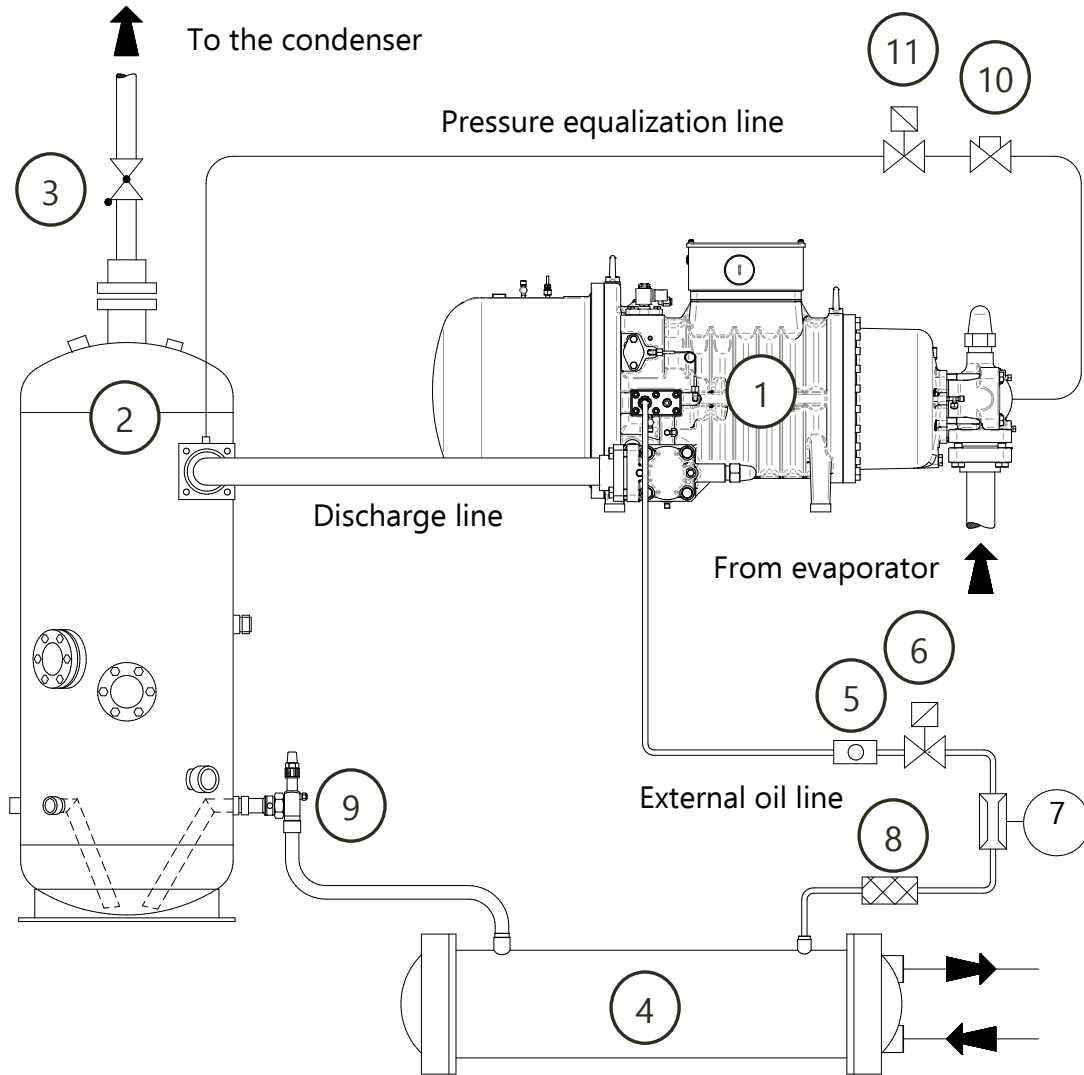

Fig. 7: diagram of the external oil circuit and components
The following Fig. 7 shows the oil circuit and involved components:
Referring to Fig. 7, the lubricant is stored in an external oil separator (2) that permits the compressor oil supply to the compressor after the separation between oil and gas mixture. The oil circulation results from the pressure difference between the oil separator, at discharge pressure, and the injection points where the pressure is slightly higher than the suction pressure.
Fig. 7 illustrates also the equalization pressure line which permit to reduce the pressure value inside the oil separator during the stop time, so it's possible:
The vertical oil separator, installed on the discharge gas line (position 2, Fig. 7), has the purpose to separate the oil from the refrigerant, to the aim of: